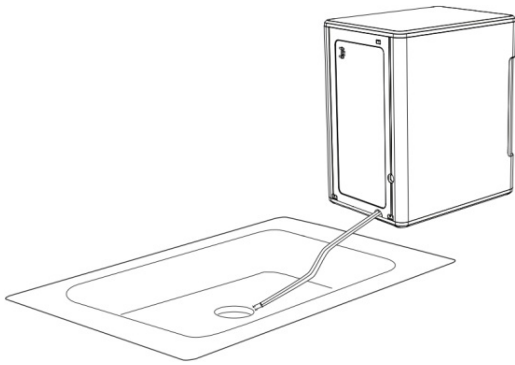

Figure 6
10. Then lay them down to drain into a sink or bucket that is below the level of the ice maker. See figure 6 and 7.